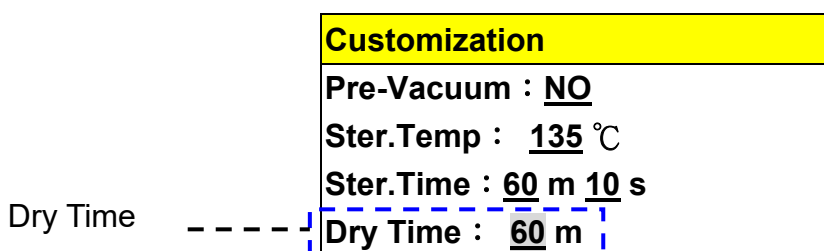

Figure 91
G. Press  or  button to move the cursor as shown in Figure 91
Press  button to store dry time parameter as shown in Figure 91.